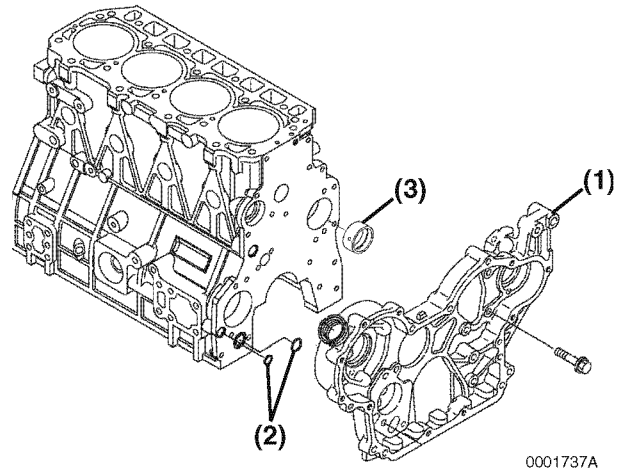

Figure 6-51
2. Remove the gear case (**Figure 6-51, (1)**) from the cylinder block. Thoroughly clean all old sealant from the gear case and cylinder block.
3. If damaged, remove the camshaft bushing (**Figure 6-51, (3)**).
4. Remove the two O-rings (**Figure 6-51, (2)**) from the cylinder block.